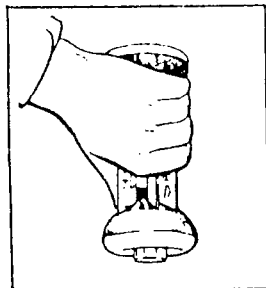

Figure 3
2. Invert FYRITE (Fig. 3) Hold at slight angle to drain fluid into top reservoir.